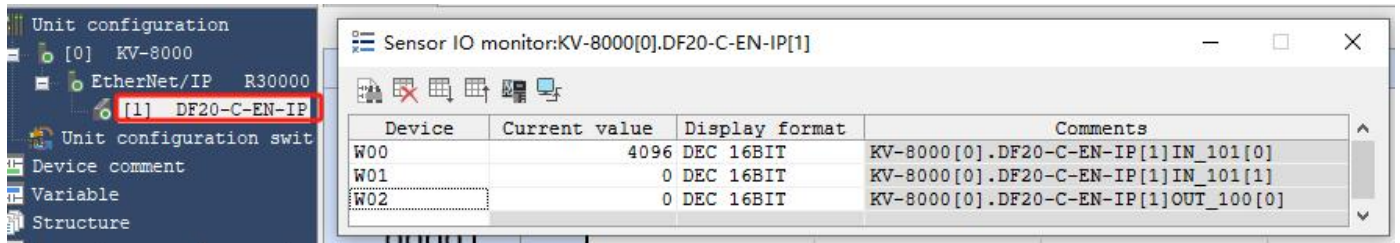

Figure 5-1-24
- Open the data monitoring table, as shown in Figure 5-1-24.